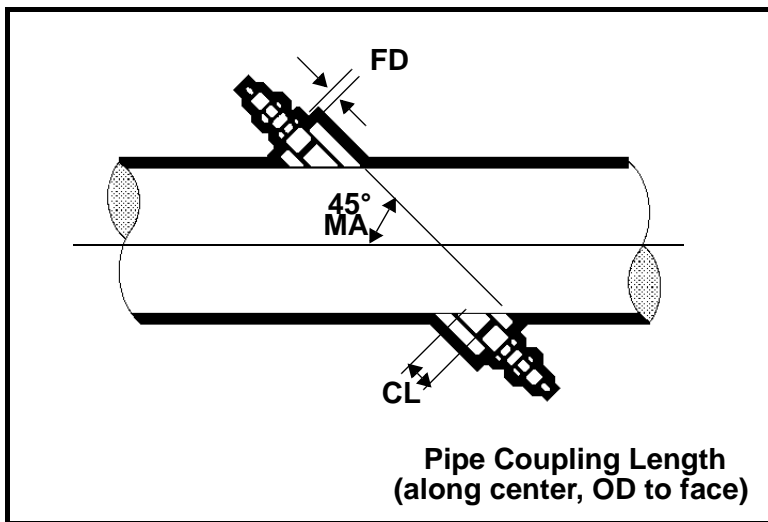

Figure C-2: Determining the Pipe Coupling Length
- the pipe inside diameter (ID)
- the wall thickness (WT)
- the installed pipe coupling length (CL)
- the transducer face depth (FD)
- the mounting angle (MA)
Use Figure C-2 below to properly measure the coupling length. Typically, the transducer face is positioned just outside the inside diameter (ID) of the pipe, or slightly retracted inside the coupling.